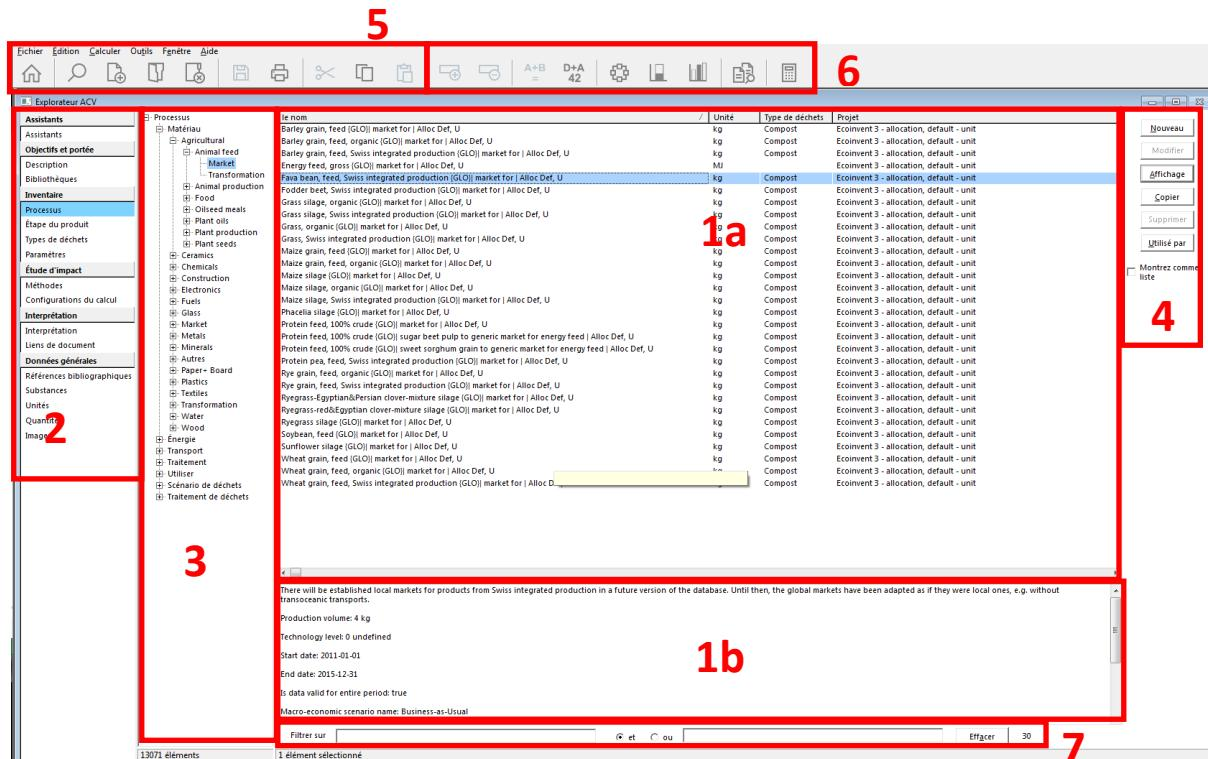

Figure 2 - project opening
Once you have chosen your libraries, select Process (in the inventory part, frame 2). You arrive at the place below (Figure 2). The main part of SimaPro (frame 1) is the explorer, on the left we have the windows that allow us to move through the different steps of the LCA (2) and within these steps (3). The right side (4) allows us to perform different actions such as creating processes, assemblies, modifying them, copying them, etc.
In the left window (frame 2, Figure 2), we have in order the different steps that make up the LCA:
As we can see in frame 1a (Figure 2), SimaPro is provided with several data libraries (Ecoinvent, ELCD, IDEMAT,...). The different libraries are not necessarily consistent with each other on different parameters: regionalization, temporal limits, assumptions, system limits.... For this project we will use the Ecoinvent database that you have seen in class.
Before performing the analysis, you can select the default method, so that you don't have to reselect it every time. To do this, go to the Methods step (card 2, Figure 2), select the desired method (here, IMPACT World+ Midpoint, in the Global methods) and click on "set as default" on the right.